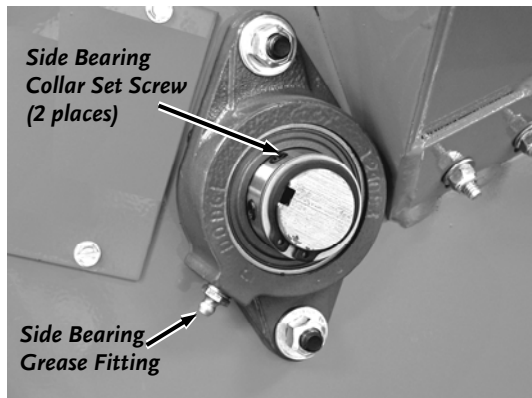

Figure 14
1. Wipe all dirt, etc., from the Grease Fitting(s) with a clean cloth (**Figure 14**).
3. After greasing, check the Side Bearing Collar Set Screws (**Figure 14**) for tightness with a 1/8" Allen Wrench. There are two Set Screws per Bearing. If they are loose, reset them with Loctite® 243, obtainable at most hardware stores.